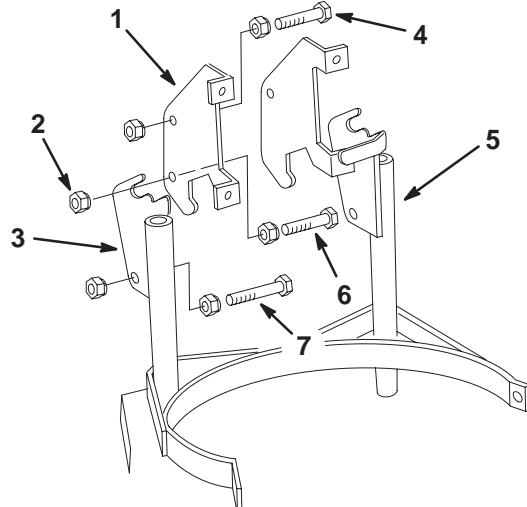

Figure 15
- Thread locknuts partway onto the 3/8"-16 x 1-3/4" (44 mm) and 3/8"-16 x 2-1/4" (57 mm) spring anchor bolts, and onto the 3/8"-16 x 1-1/4" (32 mm) top bracket pivot bolts (Fig. 15).
- Insert the 3/8"-16 x 1-3/4" (44 mm) upper spring anchor bolts, and the 3/8"-16 x 1-1/4" (32 mm) top bracket pivot bolts into the holes in the upper pivot brackets with the heads facing toward the inside (Fig. 15).
- Install a second (outer) locknut on each of the four bolts so it is flush with the end of the bolt (Fig. 15).
- Tighten the inner locknuts on the 3/8"-16 x 1-1/4" (32 mm) top bracket pivot bolts to fasten the bolts to the upper pivot brackets. Leave the inner locknuts on the 3/8"-16 x 1-3/4" (44 mm) upper spring anchor bolts loose (Fig. 15).
- Insert the 3/8"-16 x 2-1/4" (57 mm) lower spring anchor bolts into the holes in the lower pivot brackets with the heads toward the inside (Fig. 15).
- Install a second locknut on each of the two 3/8"-16 x 2-1/4" (57 mm) lower spring anchor bolts so it is flush with the end of the bolt. Leave the inner locknuts on the lower spring anchor bolts loose (Fig. 15).
14. When the springs are installed, tighten the inner locknuts on the upper and lower spring anchor bolts (Fig. 15).